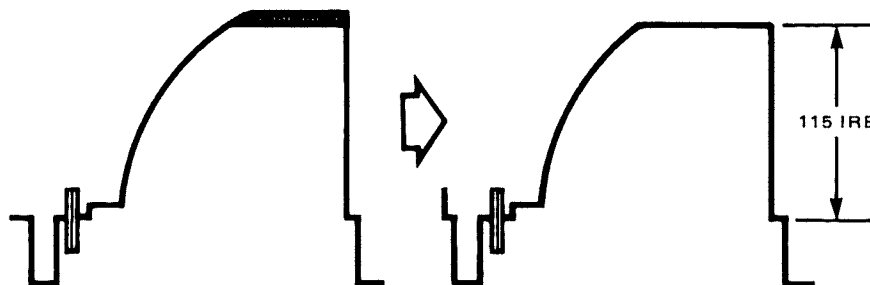

Figure 5-27. White Clip Adjustment
STEP 2 Set GAMMA ON/OFF switch S1 to ON. Observe waveform monitor and adjust R265, R365, R465 (R, G, B WHT CLIP) so that the clipping point becomes 115 IRE and the carrier leak becomes minimum at this point (Figure 5-27).